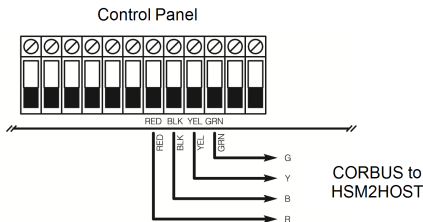

Figure 1: Wiring Diagram
1. Connect the HSM2HOST to the four-wire Corbus in the alarm panel. For more information, see Figure 1.